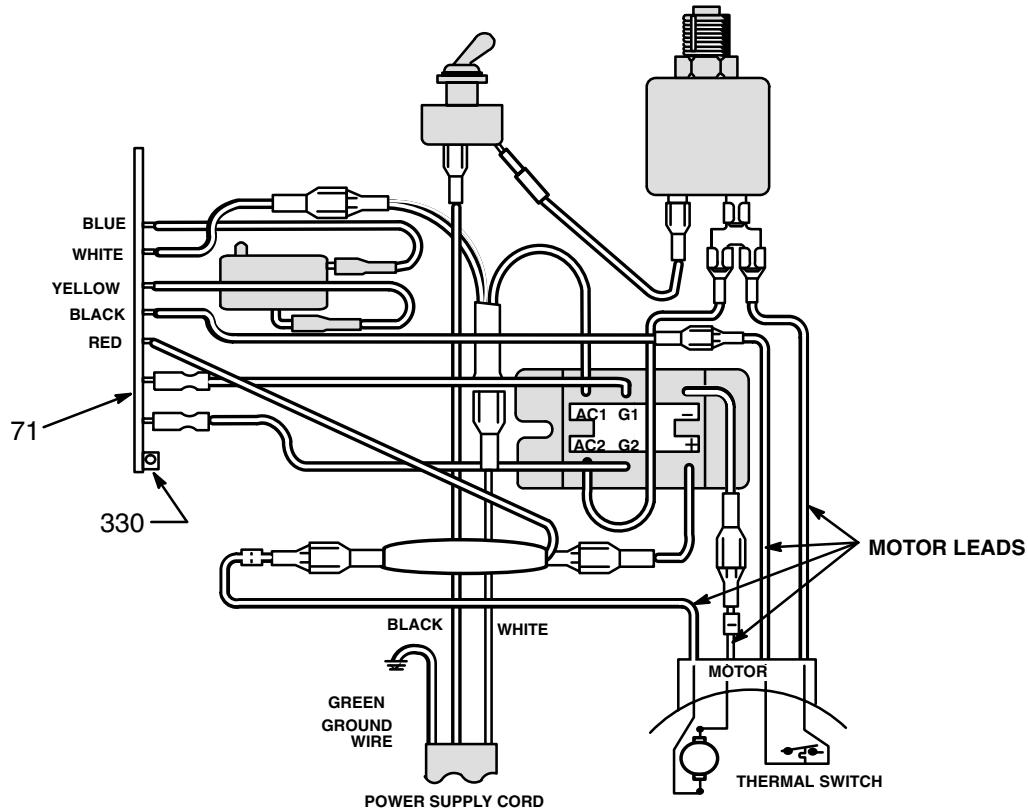

Fig 28-2
3. Disconnect ALL wires from the board, including the two heavy black wires. Pay close attention to where connections are made. Refer to Fig 28-2.
4. Pull out the black plastic-tipped pin (330). Push the bottom of the circuit board toward the wall of the control and carefully slide the board out.
6. Reconnect all wires. Refer to the wiring diagram in Fig 28-2. Ease the pin (330) into the retainer.
1. Disconnect the main fluid hose (101) and the secondary fluid hose, if used. Disconnect the fluid hose (70) at the displacement pump nipple (40) and the pressure control nipple (344).
2. Loosen the filter bracket nut (38).
3. Hold the hex of the pressure control adapter (341) firmly with a 3/4" open end wrench. Use an adjustable wrench to unscrew the swivel union (39), and then remove the fluid filter (66).
4. Remove the pressure control cover (63). Disconnect the four motor leads. Refer to Fig 28-2.
6. Remove the conduit (1).
7. Remove the three screws (8) and lockwashers (10) and nuts (11) located below the pressure control. Remove the pressure control.
8. Remove the screws (22) holding the back mounting bracket (64) to the pressure control.
9. Install the new pressure control assembly in the reverse order of disassembly . Reinstall the conduit seal (29) around the wires in the conduit connector (345) to prevent motor contamination from entering the control. See the DETAIL below.